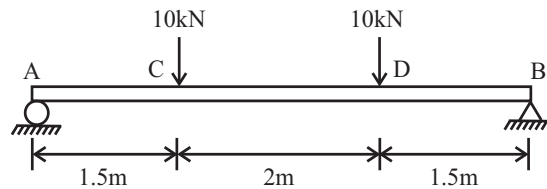

Fig 12.27
Q.21: Draw the SFD and BMD for the beam shown in the figure 12.27.